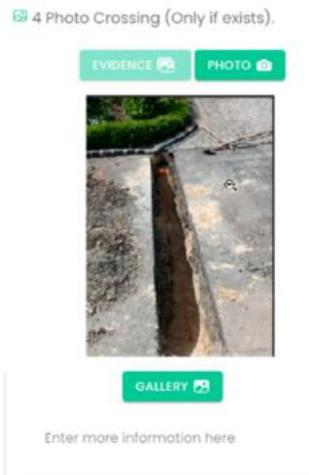

Abb. 4-17
- - Photos of the road crossing (only if available) (Abb. 4-17)
- Photos of the road crossing (only if available) (Abb. 4-17)